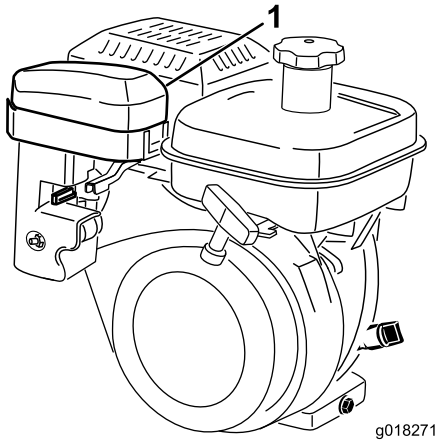
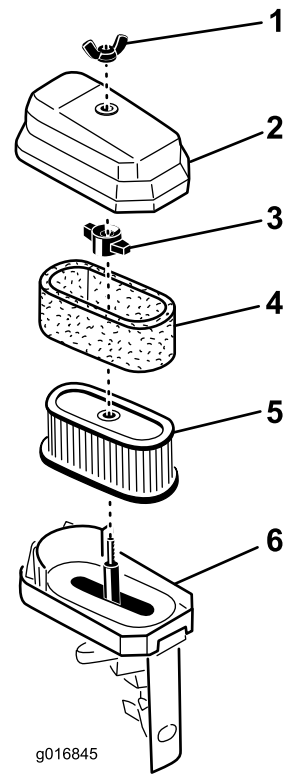

Figure 32
Figure 33
2. Remove the wing nut securing the air cleaner cover to the air cleaner and remove the cover. Clean the cover thoroughly (Figure 32 and Figure 33).
3. If the foam element is dirty, remove it from the paper element (Figure 33). Clean it thoroughly.